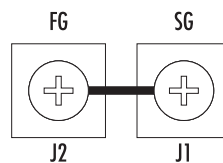

Figure 19. Frame ground connected to signal ground
3. Connect a jumper between J1 and J2 (see figure 19), then secure it with the Phillips head screws.